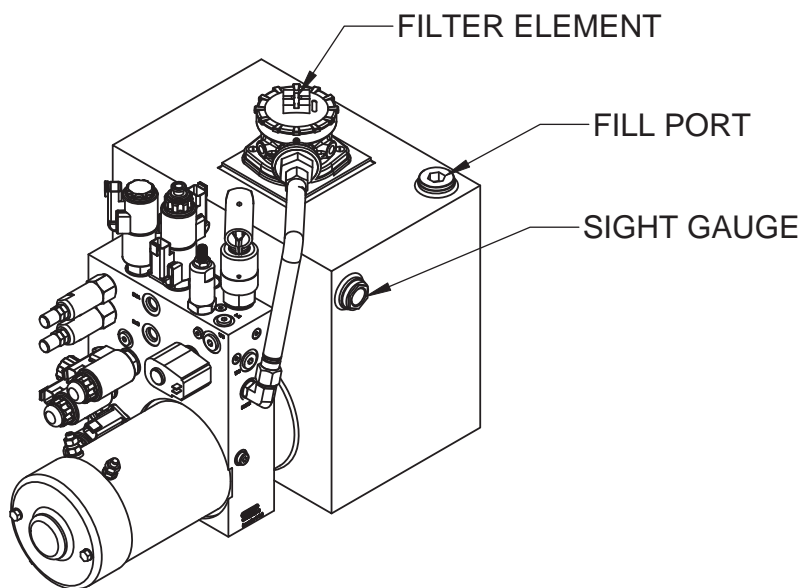

Figure 4-3. Hydraulic Reservoir
- If the hydraulic oil level is not visible to at least half way up the sight gauge, add clean Hydraulic Fluid while all booms are in the “stowed” (down) position, and the outriggers are fully retracted and in the “stowed” (upright) position. Pour slowly to avoid creating air pockets in the reservoir. **DO NOT** fill above the sight gauge. Refer to Figure 4-3.